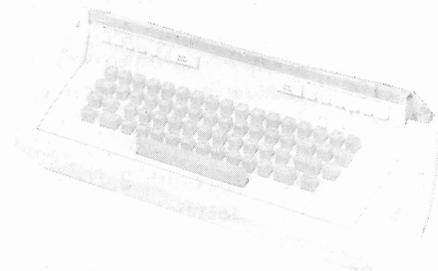

Figure 1 - 37 Keyboard Unit
1.01 This section provides disassembly and reassembly information for the late design, 11-contact 37 keyboard unit (Figure 1). It is reissued to delete disassembly and reassembly information for the reset mechanism and the intermediate gear assembly which now appears in Section 574-331-100. Arrows in the margin indicate changes and additions.
1.04 References in the procedures to left or right, up or down, top or bottom, etc refer to the unit viewed with the keytops and controls facing the front (Figure 1).